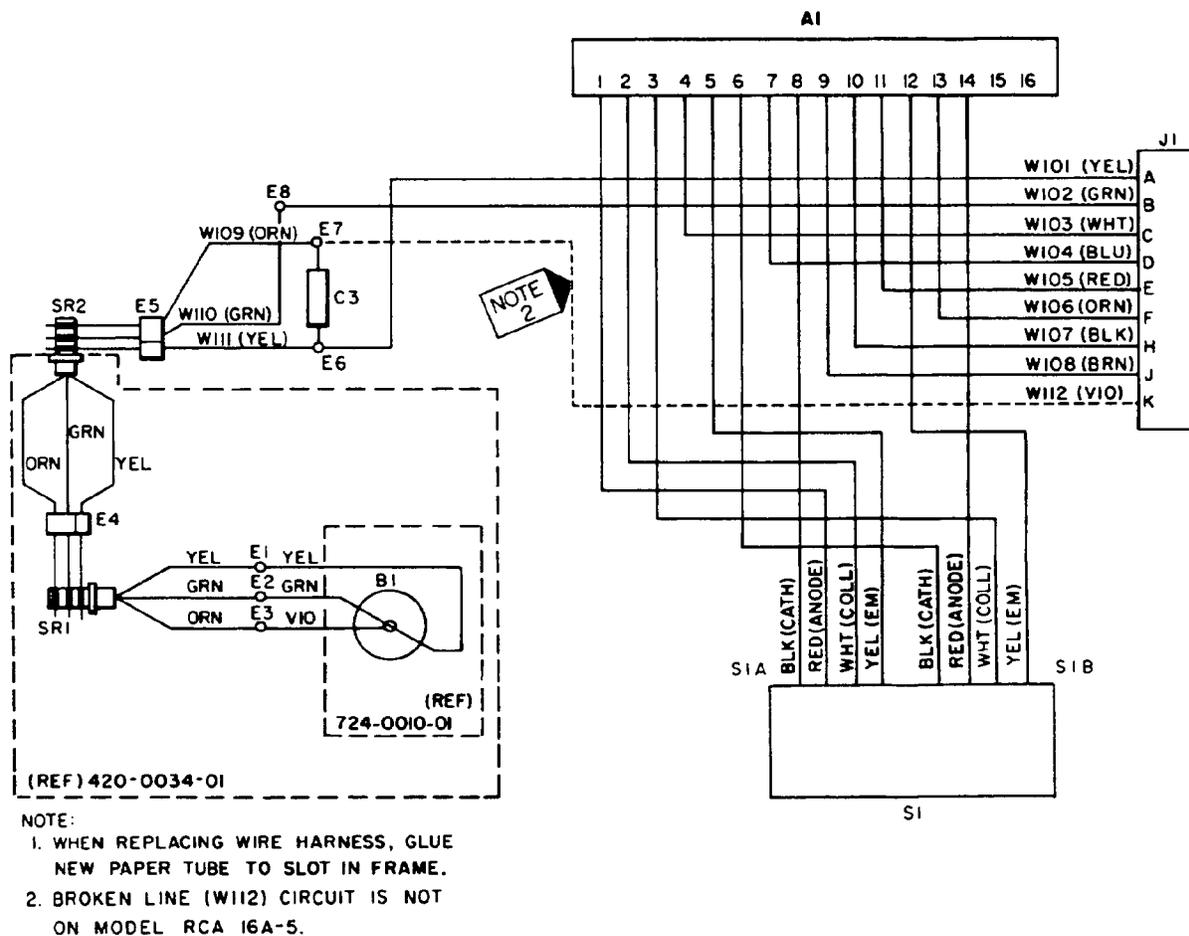

FIGURE 5-3 WIRING DIAGRAM FOR ELECTRICAL DIRECTIONAL GYRO ASSEMBLY
- l. Remove top plate, supporting the gimbal upright, and remove the motor spacer from the gimbal trunnion. Replace top plate onto the frame and gimbal, temporarily install one screw (19) in center of long arc on the top plate. Install two screws (19) with cable clamps (20) under screw heads at ends of the top plate arc. Tighten latter two screws securely, leave first screw just snug.
- 2) MOTOR CIRCUIT WIRING (See Figure 5-3) Connect leads from the motor circuit as follows:
- b. Bundle and dress leads from the gyro connector close to the top plate and past nearest cable clamp (20). Wrap bundle one turn CCW around nearest taped stand-off. Tie in place lightly with lacing cord.
- c. Inspect electrical contact brush (15) for wiper condition and dress wipers in accordance with paragraph d as necessary.
- n. Check continuity of leads from connector pins A, B and K. Refer to wiring diagram, Figure 5-3